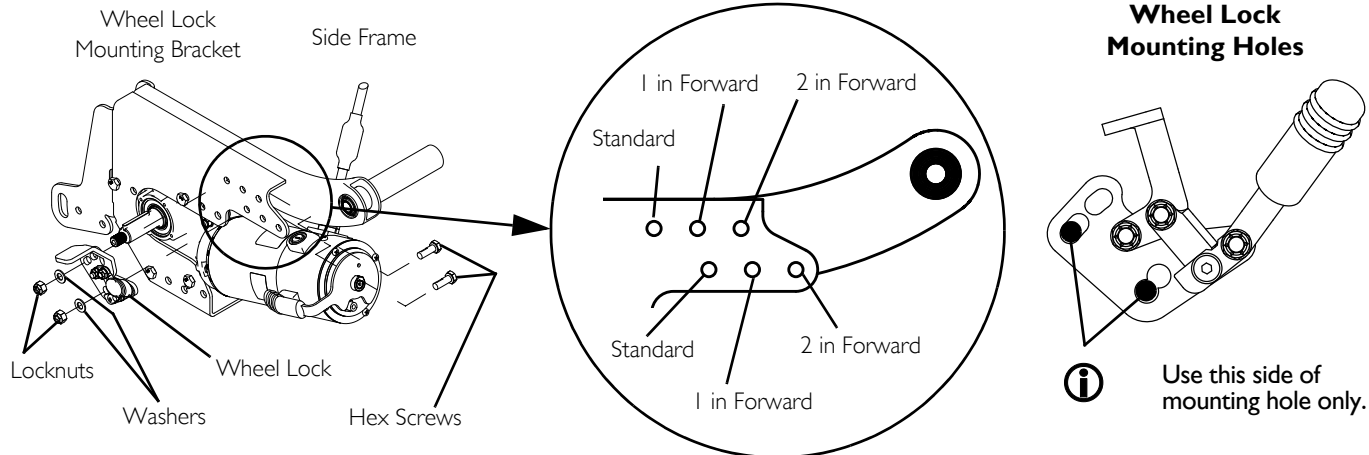

FIGURE 7 Installing Wheel Locks for Motor/Gearbox Assemblies
Refer to FIGURE 7 for proper positioning of wheel locks.
1. Determine the appropriate wheel lock mounting position on the wheel lock mounting bracket located on the side frame (FIGURE 7).
2. Using the wheel lock mounting holes shown in FIGURE 7, Position the wheel lock on the outside of the wheel lock mounting bracket of the side frame.